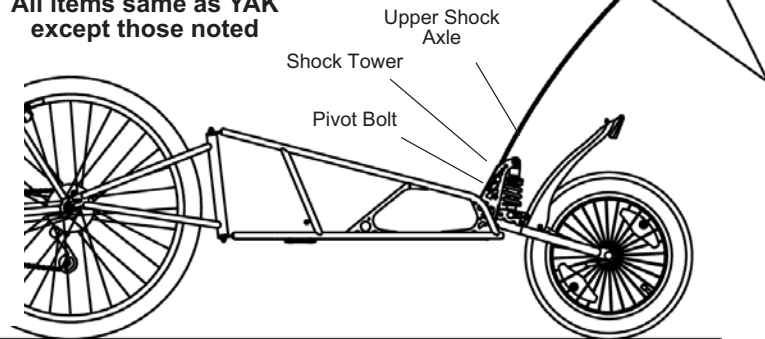

FIG.1
A) Begin by first removing the pivot bolt and washers, Fig. 1, using two 10mm wrenches.
D) Remove the upper shock axle, Fig. 1. Align the shock axle with the holes in the shock tower and install the axle and washer, Fig. 7, and tighten to 60 inch-pounds (70 cm-kgs) using two 5mm Allen wrenches.